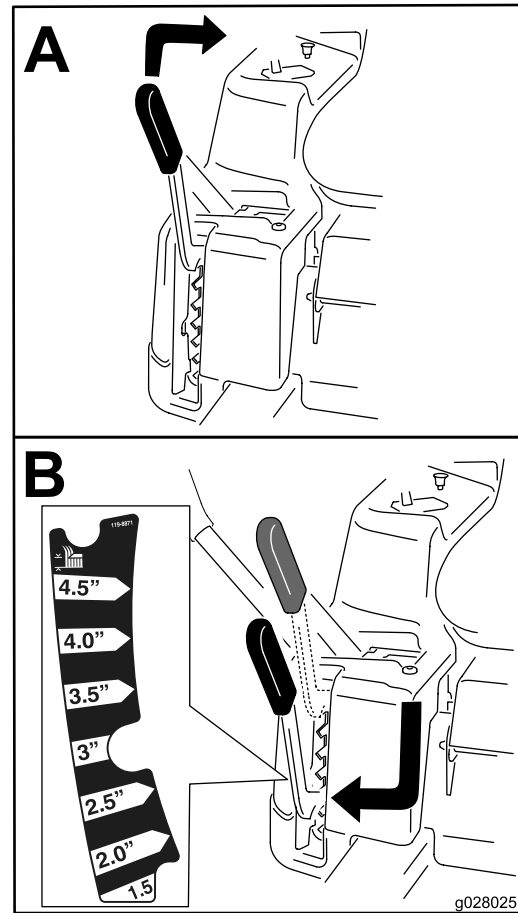

Figure 27
**Note:** The transport position is the highest height-of-cut position or cutting height at 115 mm (4-1/2 inches) as shown in Figure 27.
Height of cut is controlled by the lever located to the right of the operating position (Figure 27).